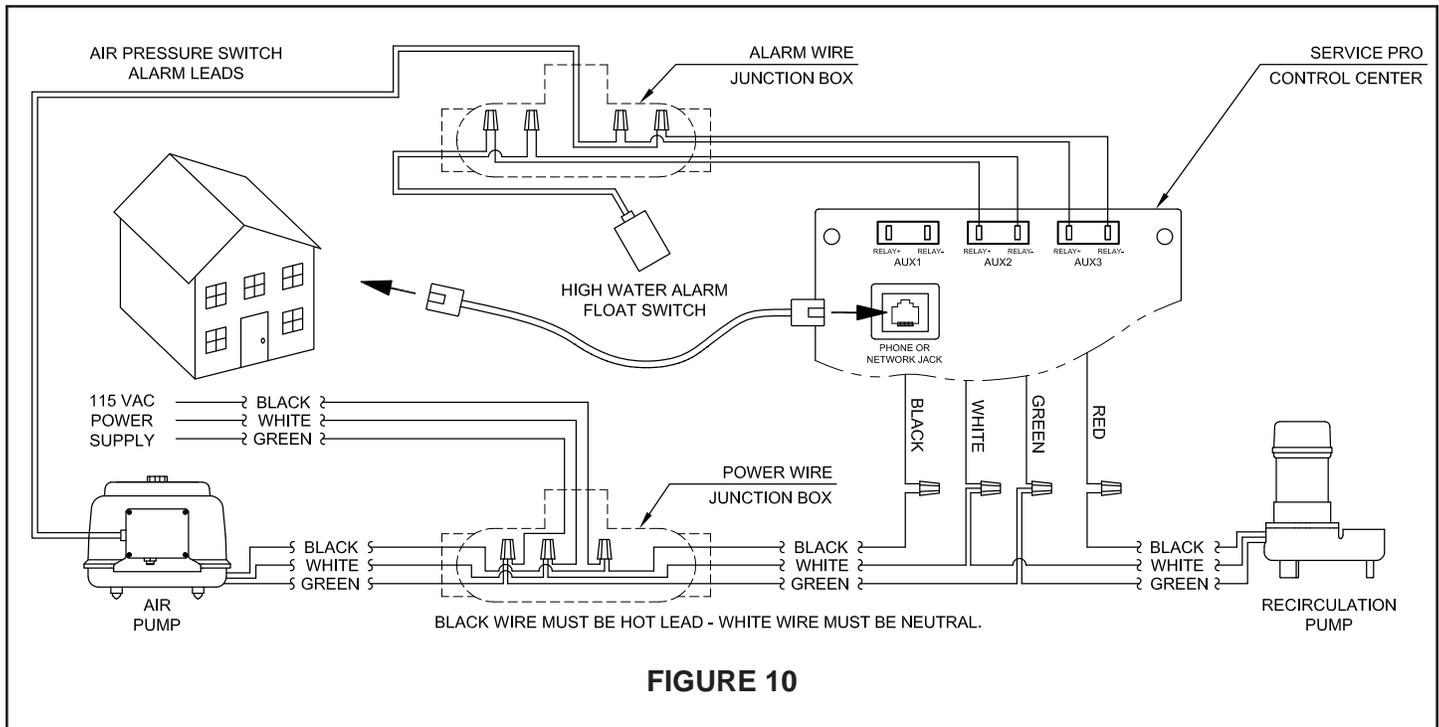

FIGURE 10
3. Reference Figure 10 for all wiring instructions. The black and white alarm wires contained in the junction box are provided to connect the float switch to the control center. Connect the black wire in the junction box to either alarm lead from the panel, and secure with a wire nut connector. Connect the white wire in the junction box to the remaining alarm lead from the panel, and secure with a wire nut connector.